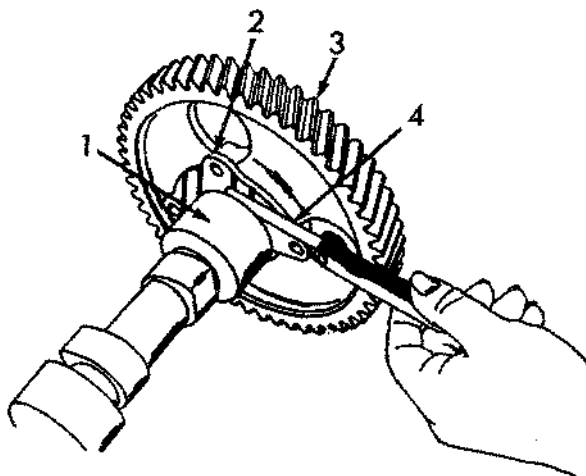

Fig. 5 -- Checking Thrust Plate Clearance (T-51649)
a gear puller. Press the drive gear from the shaft with the tool illustrated in Fig. 5.
- (3) Carefully pull the exhaust and intake valve lifters up to their uppermost position and place a stout rubber band around the two dowels. Friction tape, wire, o-rings, or heavy string could also be used instead of rubber bands.
- (4) As the camshaft is withdrawn from the cylinder block, remove the thrust plate and lock plate. Also, it may be necessary to rotate the crankshaft so that the connecting rods will not interfere with the camshaft lobes.
7. After removing the camshaft with gear from the cylinder block, check the thrust plate clearance (end play) by inserting a feeler gauge between the thrust plate and camshaft bearing journal as illustrated in Fig. 5. The specific end play is .003"-.010" (early models); .0027"-.0083" (late models). If the end play exceeds the maximum wear limit of .015" with a new thrust plate, the camshaft gear must be replaced.